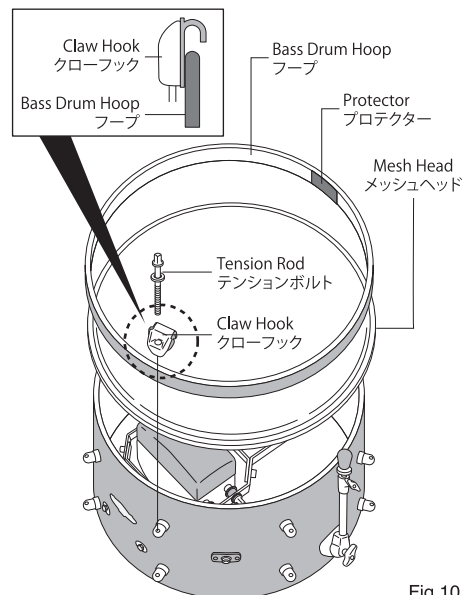

Fig.10
3. Install the batter side Mesh head by placing it onto the shell as shown (Fig.10). Place the batter side Bass Drum Hoop with the flat-side down against the head. Hook the Tension Rod and Claw on the hoop and insert the Tension Rod into the lug and tension finger tight. Repeat the process until all are installed then tighten using the provided Drum-Key.
ドラムシェルの上に打面側のメッシュヘッド、フープを順番に重ね、さらにクローフックをフープにひっかけた後、ドラムキーでテンションボルトを締めてください (Fig.10)。